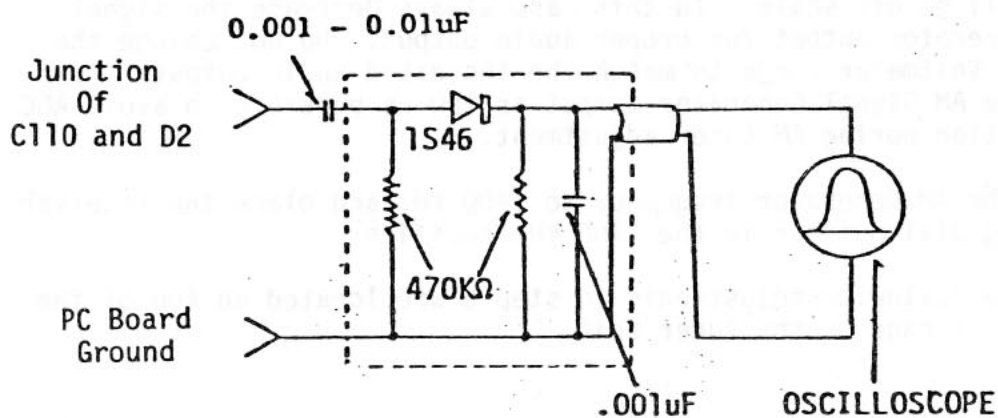

Figure 2. LR-9090 Detector Probe Circuit.
- Make-up a Detector Probe as shown in Figure 2, and connect it to the junction of C110 and D2 on PC Board PS-TU019COX and PC Board Ground.